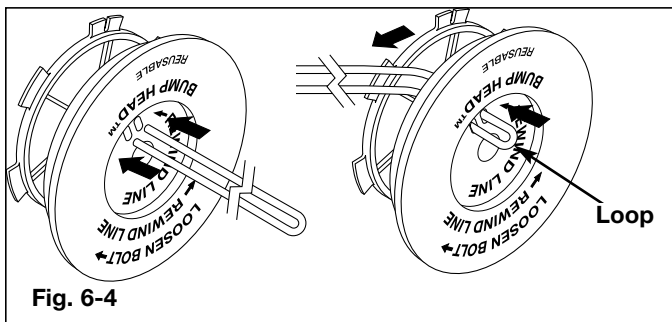

Fig. 6-4
6. Take approximately 40 feet (12.2 m) of new trimming line, loop it into two equal lengths. Insert each end of the line through one of the two holes in the inner reel (Fig. 6-4). Pull the line through the inner reel so that the loop is as small as possible.